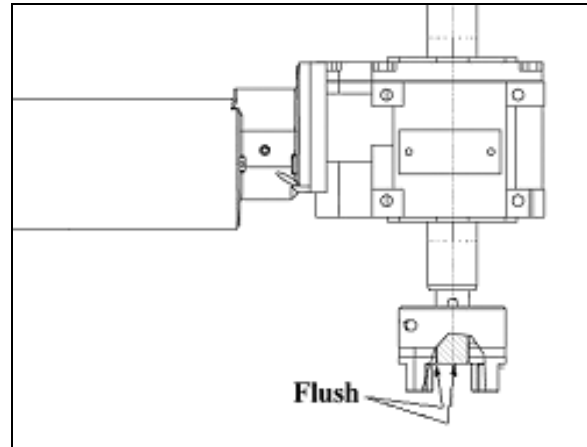

FIGURE 21: CLAMPING HUB POSITION ON GEARBOX SHAFT
6. Install a clamping hub on one of the gearbox shaft (opposite side of gearbox mounting bolts) flush with the shaft extremity (Figure 21) and tighten the clamping screw.
7. Install the second clamping hub on the gearbox shaft. Position the clamping hubs so that they are flush with the shafts extremity (Figure 21).